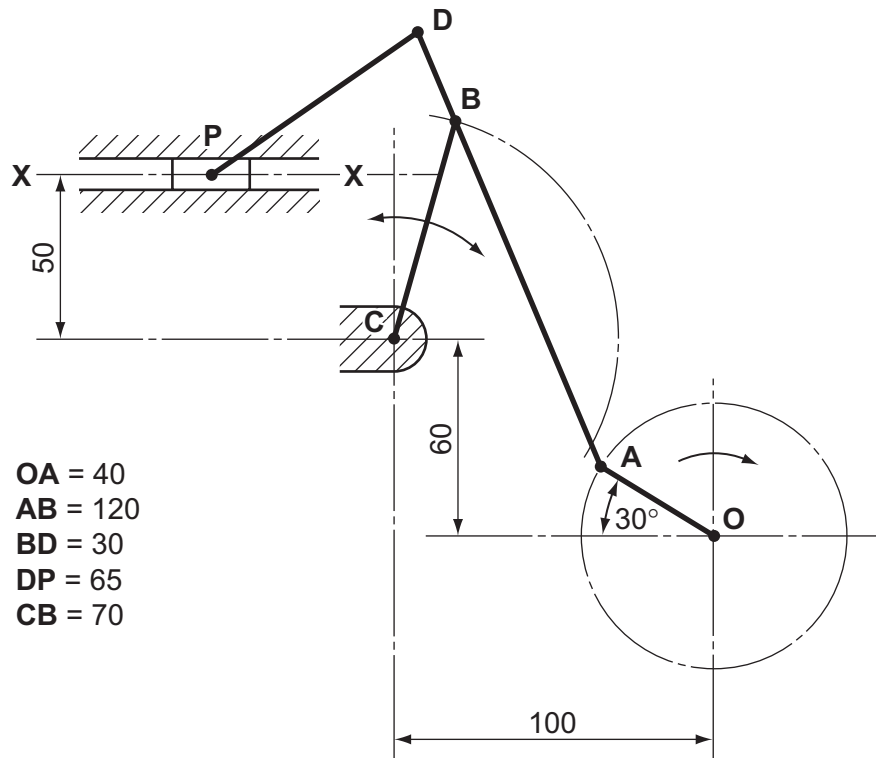

Fig. 2
- 2 Fig. 2 shows diagrammatically a simple valve mechanism, in which the crank **OA** revolves about a fixed centre **O**. The arm **CB** oscillates about a fixed centre **C** and the piston **P** moves in a constrained horizontal path along the centre line **X–X**.